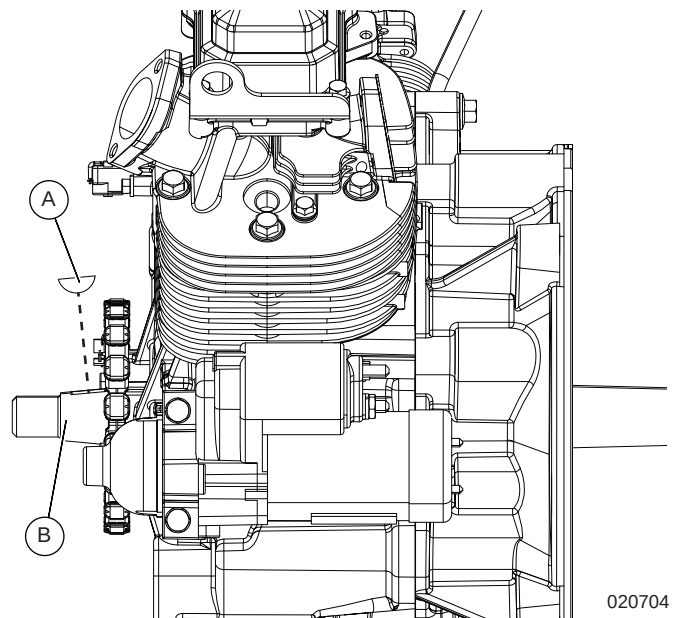

Figure 7-6. Install Woodruff Key
1. See Figure 7-6. Install woodruff key (A) into slot in crankshaft (B).